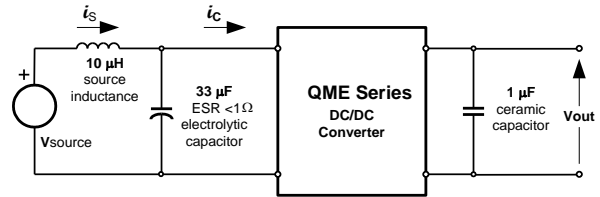

Figure 2.5V.20. Test setup for measuring input reflected ripple currents,  $i_c$  and  $i_s$ .
**Figure 2.5V.9.** Available load current vs. ambient air temperature and airflow rates for QME48T40025 converter with G height pins mounted vertically with air flowing from pin 1 to pin 3, MOSFET temperature  $\leq 120\text{ }^{\circ}\text{C}$ ,  $V_{in} = 48\text{ V}$ .
**Figure 2.5V.10.** Available load current vs. ambient air temperature and airflow rates for QME48T40025 converter with G height pins mounted horizontally with air flowing from pin 1 to pin 3, MOSFET temperature  $\leq 120\text{ }^{\circ}\text{C}$ ,  $V_{in} = 48\text{ V}$ .
**Figure 2.5V.11.** Efficiency vs. load current and input voltage for QME48T40025 converter mounted horizontally with air flowing from pin 1 to pin 3 at a rate of 300 LFM (1.5 m/s) and  $T_a = 25\text{ }^{\circ}\text{C}$ .
**Figure 2.5V.12.** Efficiency vs. load current and ambient temperature for QME48T40025 converter mounted horizontally with  $V_{in} = 48\text{ V}$  and air flowing from pin 1 to pin 3 at a rate of 200 LFM (1.0 m/s).
Figure 2.5V.13. Power dissipation vs. load current and input voltage for QME48T40025 converter mounted horizontally with air flowing from pin 1 to pin 3 at a rate of 300 LFM (1.5 m/s) and  $T_a = 25\text{ }^\circ\text{C}$ .
Figure 2.5V.14. Power dissipation vs. load current and ambient temperature for QME48T40025 converter mounted horizontally with  $V_{in} = 48\text{ V}$  and air flowing from pin 1 to pin 3 at a rate of 200 LFM (1.0 m/s).
Figure 2.5V.15. Turn-on transient at full rated load current (resistive) with no output capacitor at  $V_{in} = 48\text{ V}$ , triggered via ON/OFF pin. Top trace: ON/OFF signal (5 V/div.). Bottom trace: output voltage (1 V/div.). Time scale: 2 ms/div.
Figure 2.5V.16. Turn-on transient at full rated load current (resistive) plus 10,000  $\mu\text{F}$  at  $V_{in} = 48\text{ V}$ , triggered via ON/OFF pin. Top trace: ON/OFF signal (5 V/div.). Bottom trace: output voltage (1 V/div.). Time scale: 2 ms/div.
Figure 2.5V.17. Output voltage response to load current step-change (20 A - 30 A - 20 A) at  $V_{in} = 48\text{ V}$ . Top trace: output voltage (100 mV/div.). Bottom trace: load current (10 A/div.). Current slew rate: 0.1 A/ $\mu\text{s}$ .  $C_o = 1\text{ }\mu\text{F}$  ceramic. Time scale: 0.2 ms/div.
Figure 2.5V.18. Output voltage response to load current step-change (20 A - 30 A - 20 A) at  $V_{in} = 48\text{ V}$ . Top trace: output voltage (100 mV/div.). Bottom trace: load current (10 A/div.). Current slew rate: 5A/ $\mu\text{s}$ .  $C_o = 470\text{ }\mu\text{F POS} + 1\text{ }\mu\text{F}$  ceramic. Time scale: 0.2 ms/div.
Figure 2.5V.19. Output voltage ripple (20 mV/div.) at full rated load current into a resistive load with  $C_o = 10 \mu\text{F}$  tantalum +  $1 \mu\text{F}$  ceramic and  $V_{in} = 48 \text{ V}$ . Time scale:  $1 \mu\text{s}/\text{div}$ .
Figure 2.5V.21. Input reflected ripple current,  $i_c$  (100 mA/div.), measured at input terminals at full rated load current and  $V_{in} = 48 \text{ V}$ . Refer to Fig. 2.5V.20 for test setup. Time scale:  $1 \mu\text{s}/\text{div}$ .
Figure 2.5V.22. Input reflected ripple current,  $i_s$  (10 mA/div.), measured through  $10 \mu\text{H}$  at the source at full rated load current and  $V_{in} = 48 \text{ V}$ . Refer to Fig. 2.5V.20 for test setup. Time scale:  $1 \mu\text{s}/\text{div}$ .
Figure 2.5V.23. Output voltage vs. load current showing current limit point and converter shutdown point. Input voltage has almost no effect on current limit characteristic.
Figure 2.5V.24. Load current (top trace, 20 A/div., 50 ms/div.) into a  $10 \text{ m}\Omega$  short circuit during restart, at  $V_{in} = 48 \text{ V}$ . Bottom trace (20 A/div., 2 ms/div.) is an expansion of the on-time portion of the top trace.